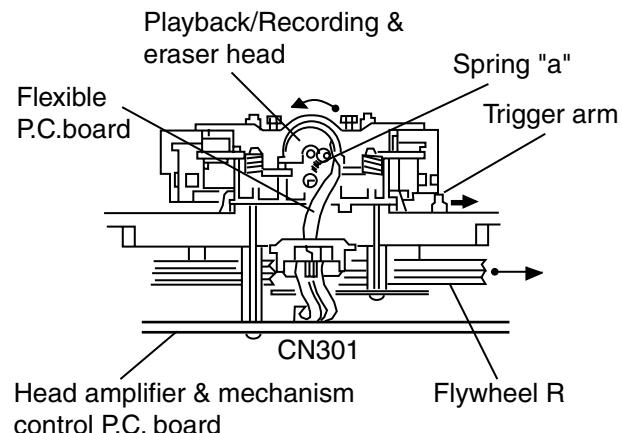
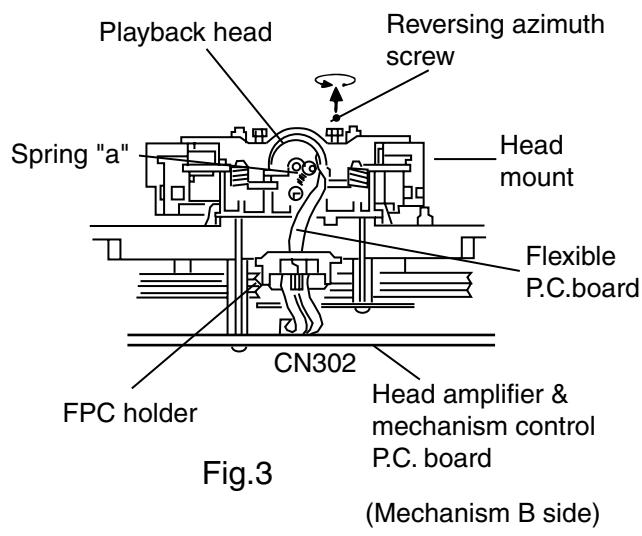

Fig.2 (Mechanism A side)
Fig.3 (Mechanism B side)
2. When the flywheel R is rotated in counterclockwise direction, the playback head will be turned in counterclockwise direction from the position in Fig.2 to that in Fig.3.
● Reassembling the Playback, Recording and Eraser Heads (See Fig.2,3)
1. Reassemble the playback head from the front of the head mount to the position as shown in Fig.3.
4. Attach the flexible P.C.board to the chassis base, and fix it with the FPC holder as shown in Fig.3.